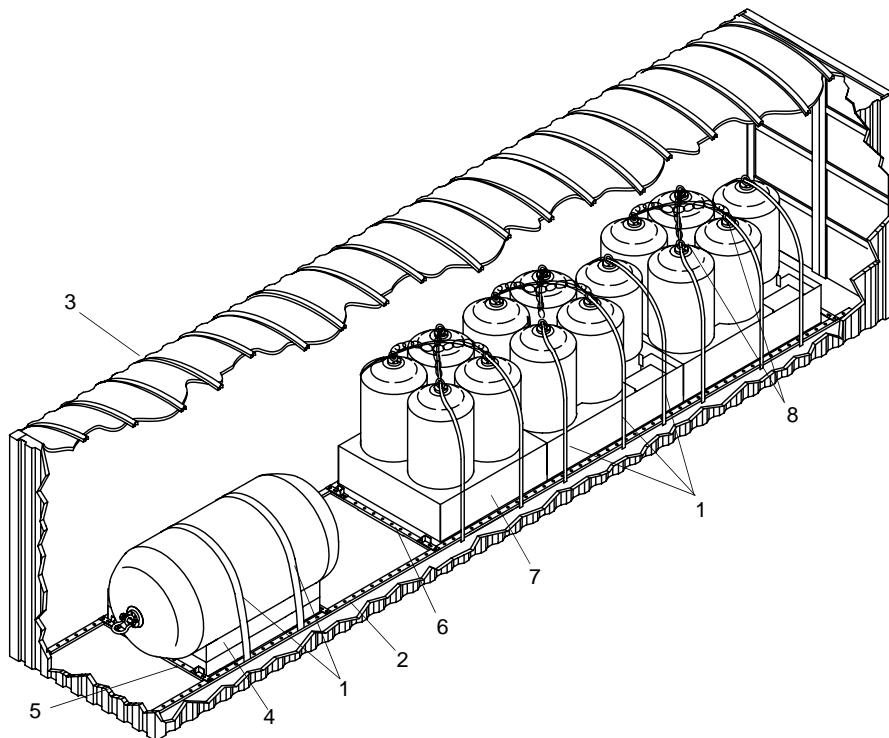

Figure 7. 3 ft by 5 ft & 5 ft by 10 ft Fender Container
7. Attach two tie down straps (figure 7, item 1) to the port side floor track (figure 7, item 2), at the rear of the container (figure 7, item 3). Place the straps out of the way to allow loading.
8. Using forklift, place 5 ft by 10 ft fender pallet (figure 7, item 4) inside the door of the container (figure 7, item 3), between the floor tracks (figure 7, item 2).
9. Using forklift and push-pull rod, position 5 ft by 10 ft fender pallet (figure 7, item 4) in container (figure 7, item 3) so fender will clear center ceiling bow when loaded into pallet.
12. Using forklift and push-pull rod, push the fender pallet (figure 7, item 4) to the rear of container (figure 7, item 3) and against fixed track stop (figure 7, item 5).
13. Pull tie down straps (figure 7, item 1) over fender and pallet (figure 7, item 4) and attach loose ends to other floor track (figure 7, item 2). Tighten straps (figure 7, item 1).
14. Install a track stop (figure 7, item 6) in front of 5 ft by 10 ft fender pallet (figure 7, item 4). (WP 0007 00)
15. Install a track stop (figure 7, item 6) at the red marks for the next pallet.
16. Attach one end of tie down straps (figure 7, item 1) to floor track (figure 7, item 2) for the next pallet.
19. Using forklift, place a 3 ft by 5 ft fender pallet (figure 7, item 7) inside the door of the container (figure 7, item 3), between the floor tracks (figure 7, item 2).
20. Using forklift and push-pull rod, push the fender pallet (figure 7, item 7) towards the rear of container (figure 7, item 3) and against the track stop (figure 7, item 6).
21. Pull tie down straps (figure 7, item 1) over fenders and pallet (figure 7, item 7), routing them through the fender shackles (figure 7, item 8).
22. Attach loose ends of tie down straps (figure 7, item 1) to other floor track (figure 7, item 2). Tighten straps (figure 7, item 1).
23. Repeat step 16 through step 22 for the remaining 3 ft by 5 ft fender pallets (figure 7, item 7).
24. Install a track stop (figure 7, item 6) in front of last 5 ft by 10 ft fender pallet (figure 7, item 4). (WP 0007 00)